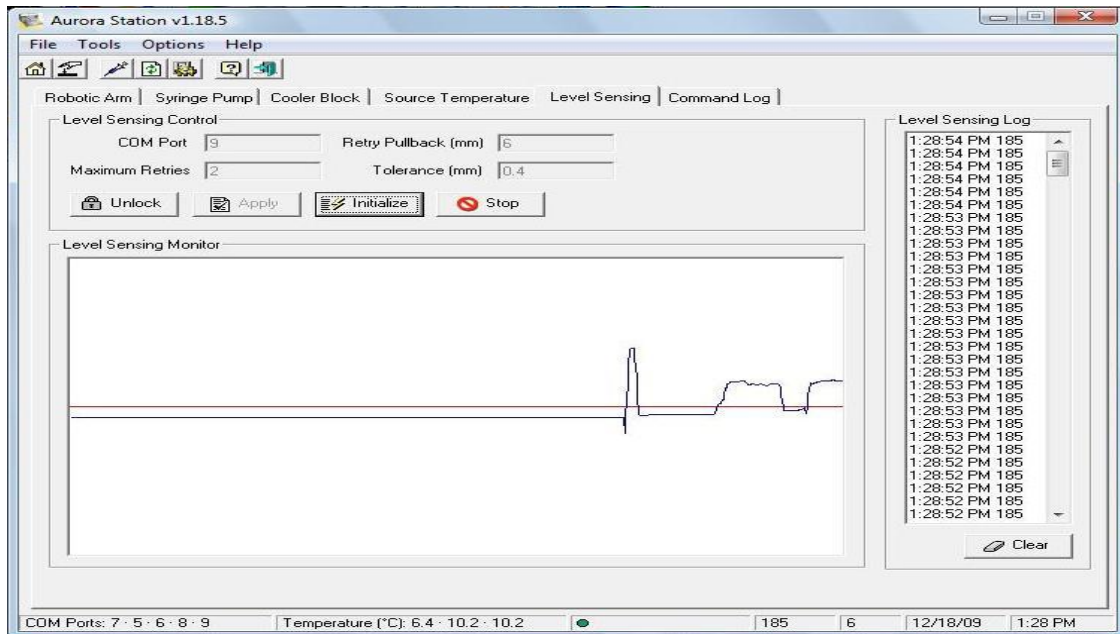

Figure 9-68 Signal Level Change – Barrel with Tip Immersed in Liquid
10. Note the signal level changing from 100 to 200 (*Figure 9-68 Signal Level Change – Barrel with Tip Immersed in Liquid*).